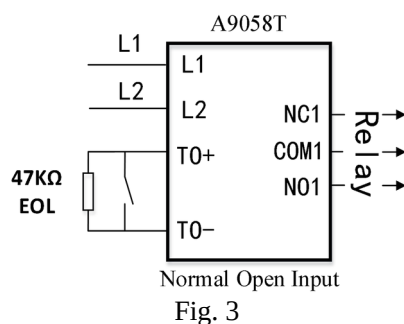
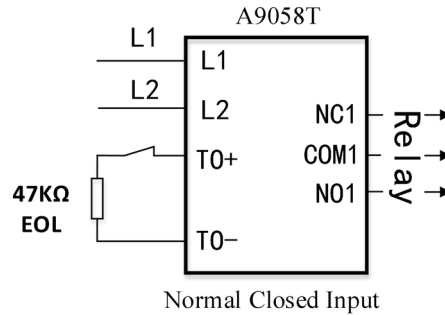
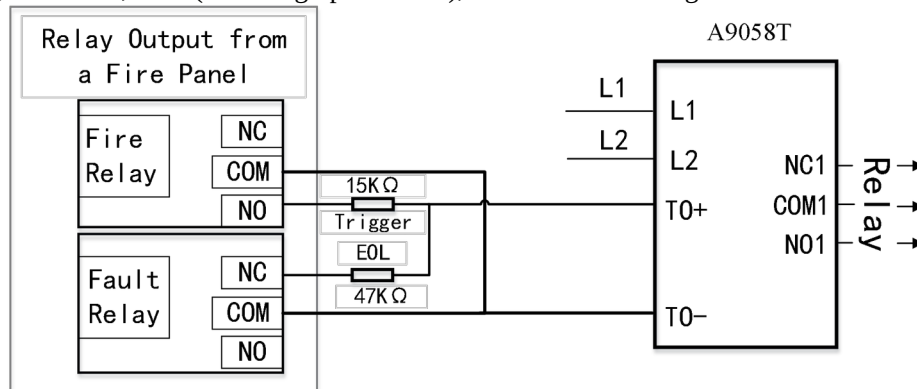

Fig. 3
Fig. 4
Fig. 5
- Mode 1: Normally open input detection: The 47KΩ EOL resistor should be placed at the end of the input line, and as close as possible to the device being monitored, as shown in Fig. 3. Only if properly connected that the module can recognize the three states in the input terminals: normal, open circuit and alarm (short circuit).
- Mode 2: Normally closed input detection: The 47KΩ EOL resistor should be placed at the end of the input line, and as close as possible to the device being monitored, as shown in Fig. 4. Only if correctly
- Mode 3: Device Fire Alarm or Fault Mode: The 47KΩ EOL resistor and 15KΩ trigger resistor should be placed at the end of the input line, and as close as possible to the device being monitored, as shown in Fig. 5. Only if correctly connected that the module can recognize the four states in the input terminals: normal, fire alarm, fault (including open circuit), short circuit. Wiring method is shown in Fig. 5 below.
- Conduct correct wiring as instructed in Fig. 3/ Fig. 4 /Fig. 5.